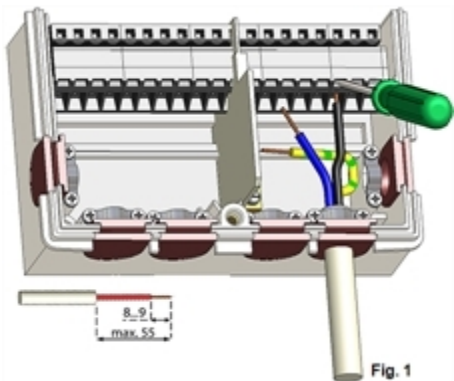

Fig. 1
3. Strip lines a max. of 55 mm, assemble the strain reliefs, strip wire ends 8-9mm (figure 1)